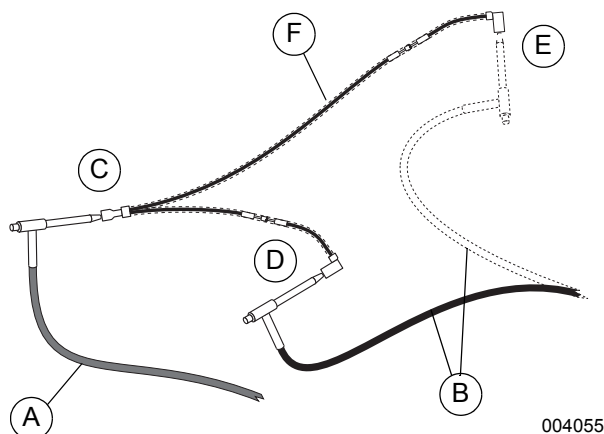

Figure 4-9. Testing Ground Wire
2. Insert BLACK test lead (B) into DMM "COM" receptacle.
4. See Figure 4-9. Insert RED test lead clip into connector (C). Leave attached for remainder of test.